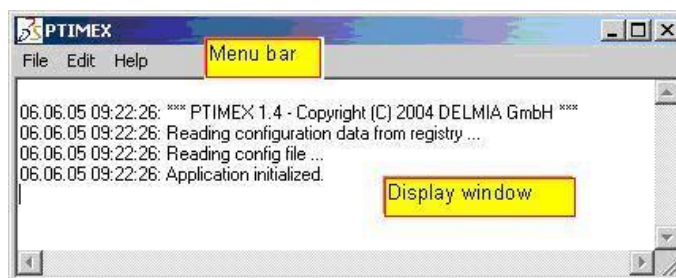

Figure 13: PTIMEX
- An application is opened where you can import and export projects. *Please refer to the Figure 13.*